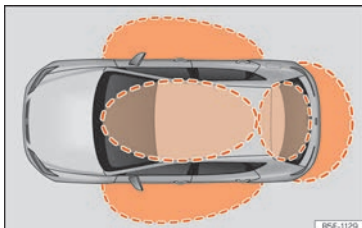
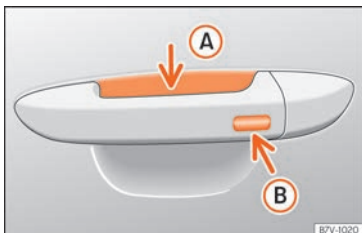

Fig. 99 Keyless Access: proximity zones.
Fig. 100 Door handle: sensor surfaces
»» Fig. 100
Keyless Access is a key-free locking and ignition system to unlock and lock the vehicle without actively using its key. To do this, all that is required is to have a valid vehicle key in the detection area where you are attempting to access the vehicle »» Fig. 99 and to touch one of the sensor surfaces on the door handles »» Fig. 100 »» ❶.
If a valid key is in the proximity of the car »» Fig. 99, the Keyless Access locking and starting system gives the key entry as soon as
- Grip one of the front door handles. When you do this, you touch the sensor surface »» Fig. 100 (A) (arrow) of the handle and the vehicle unlocks.
- Touch (once) the locking sensor surface »» Fig. 100 (B) (arrow) on one of the front door handles. The door that is used must be closed.
- Touch (once) the sensor surface »» Fig. 100 (B) (arrow) on one of the front door handles. The vehicle locks with the “Safe” security system »» page 106. The door that is used must be closed.
- Touch (twice) the sensor surface »» Fig. 100 (B) (arrow) of one of the front door handles to lock the vehicle without activating the “Safelock” security system »» page 106.
When the vehicle is locked, the rear lid automatically unlocks on opening if there is a valid vehicle key in the proximity »» Fig. 99.
- Push the central locking button  on the remote control and touch the locking sensor surface of the driver door handle »» Fig. 100 (B) within the following 5 seconds. Do not grasp the door handle; otherwise the vehicle will not unlock. Deactivation is also possible if the vehicle is locked through the driver's door lock.
To close all the electric windows and the sunroof using the **comfort function**, keep a finger for a few seconds on the locking sensor surface »» Fig. 100 **B** (arrow) of the door handle until the windows and roof have closed.
The sensor surfaces on the door handles could engage if hit with a water jet or high pressure steam if there is a valid vehicle key in the proximity. If at least one of the electric windows is open and the sensor surface »» Fig. 100 **B** (arrow) on one of the handles is activated continuously, all windows will close.